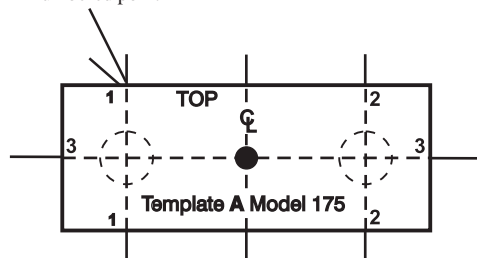

Figure 13 - Marking the Outline of Template A
4. Draw an outline of Template A. Mark the floor at each point indicated by the numbers 1, 2, and 3 (Figure 13).